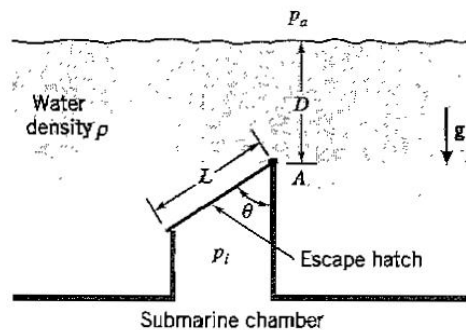

Figure P2.93
2.93 The rectangular submarine escape hatch shown in Figure P2.93 (of width W and length L) will open when the constant pressure inside the chamber, p_i , exceeds a critical value p_{ic} . The hatch has negligible mass and it is hinged without friction at point A which